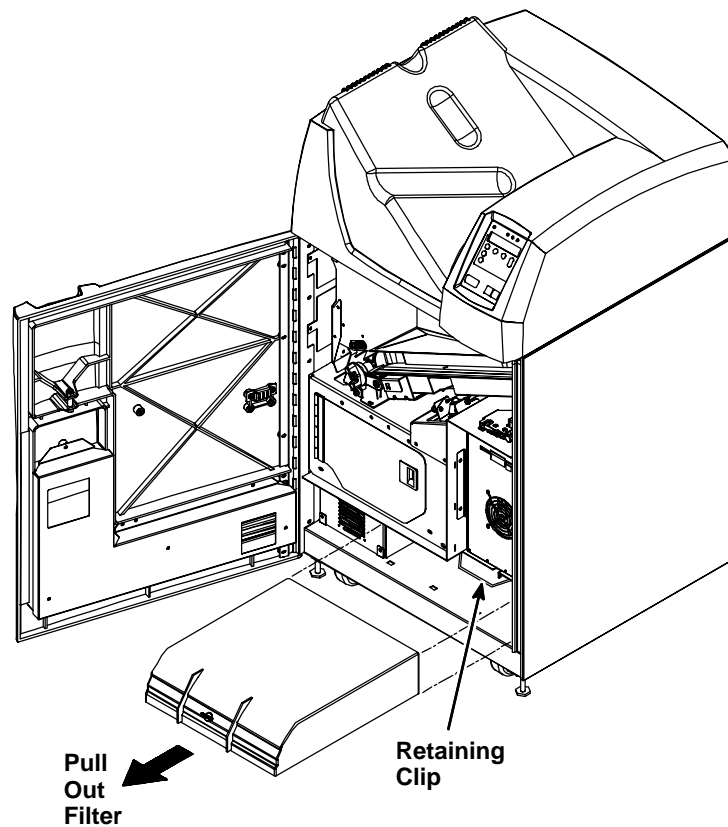

Figure 3-7. Replacing the Charcoal Filter
2. Push the retaining clip on the top front of the filter back and up (see Figure 3-7) and pull out the old filter.